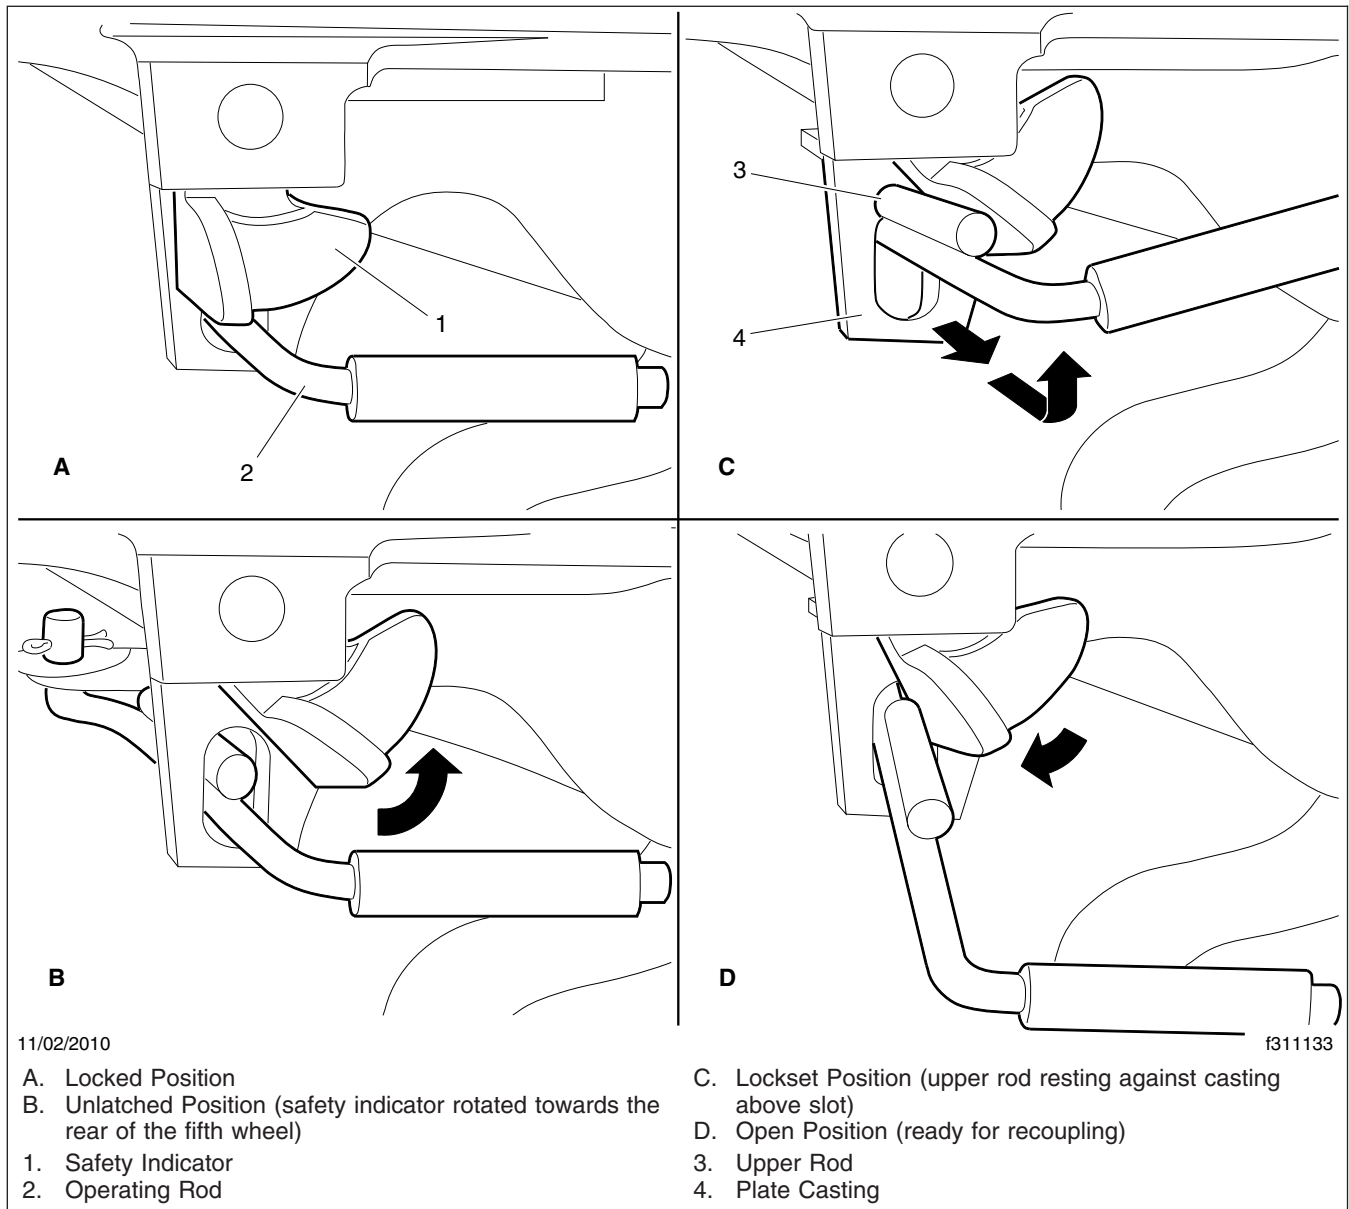

Fig. 18.9, Holland Kingpin Locking Mechanism
- 6.2 **Holland:** In the locked position the safety indicator swings freely over the operating rod. See Fig. 18.9, View A.
To unlock the mechanism, manually rotate the safety indicator toward the rear of the fifth wheel. See Fig. 18.9, View B.
Pull the operating rod out. When the upper operating rod shoulder is outside the slot, raise the handle and place the shoulder of the upper rod against the plate casting, above the slot. See Fig. 18.9, View C.
The fifth wheel is now in the lockset position and is ready for uncoupling. As the tractor pulls away from the trailer the kingpin forces the jaw to rotate, contacting the lock. Continued rotation of the jaw forces the lock to move outward, and drops the upper rod back into the slot. See Fig. 18.9 View D. The wheel is now ready for coupling.